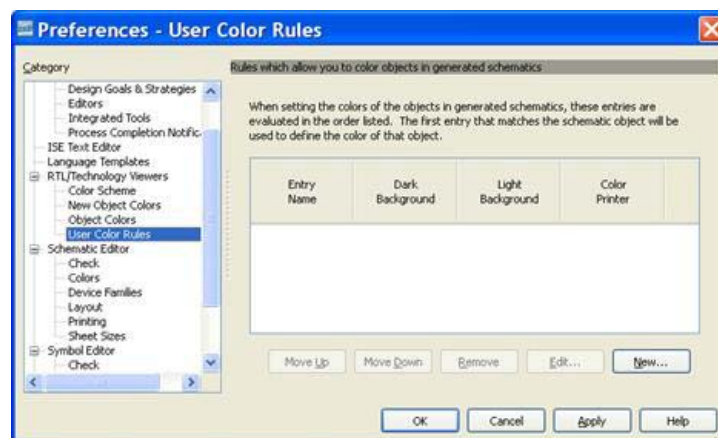

Figure 7-8: **Preferences Dialog Box**
2. Under the **RTL/Technology Viewers** category, select the **User Color Rules** sub-category as shown in Figure 7-8. This is where we can define specific color rules for our needs.